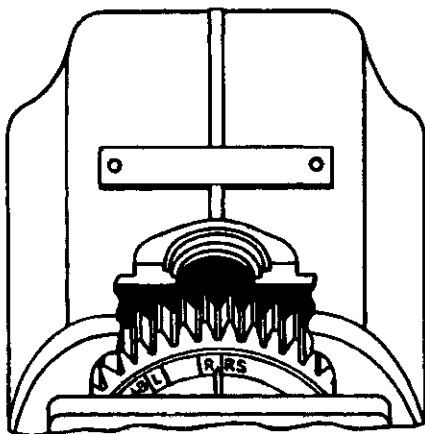

Figure 5. Alignment of Timing Marks on Distributor Gear – 6 Cylinder, Retard Breaker. Right Hand Rotation
c. Six cylinder, retard breaker types – The timing rib on the distributor block MUST lie between the "L" and "LB" or the "R" and "RB" marks on the gear, and should be nearer to the "LB" or "RB" mark, depending on magneto rotation. (See figure 5.)